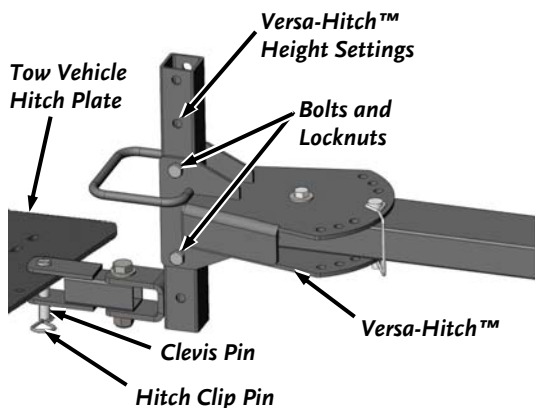

Figure 14
1. Move your Tow Vehicle to a reasonably flat area and set the Parking Brake. Lift the Versa-Hitch™ and position it onto the center of the Tow Vehicle Hitch Plate and secure with the Clevis Pin and Hitch Clip Pin (Figure 14).
Tip: Since you previously leveled the Out-Rigger™ Tow Bar when attaching it to your Tow Vehicle, whenever you change Cutting Height position up or down, just move the Versa-Hitch™ (**Figure 14 on page 17**) up or down to ensure that the Tow Bar is level or slightly lower at the Tow Hitch.